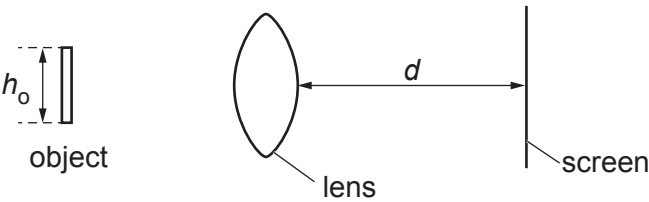

Fig. 2.1
- 2 A student investigates the image of an object formed on a screen by a converging lens, as shown in Fig. 2.1.